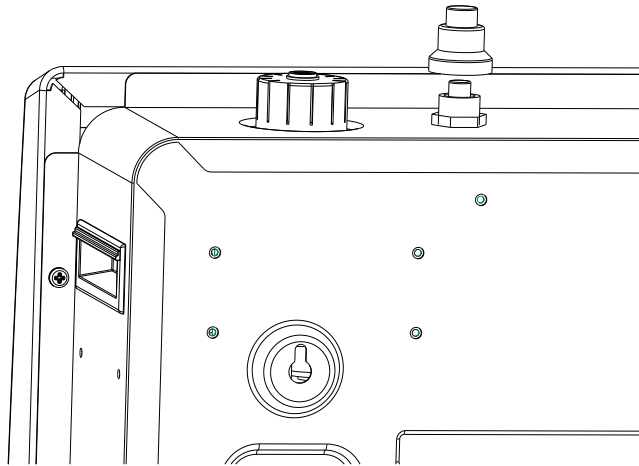

Fig 4: Installing Ignitor Battery
1. Unscrew ignitor cap and insert included battery negative (flat) side down (see Fig. 4).